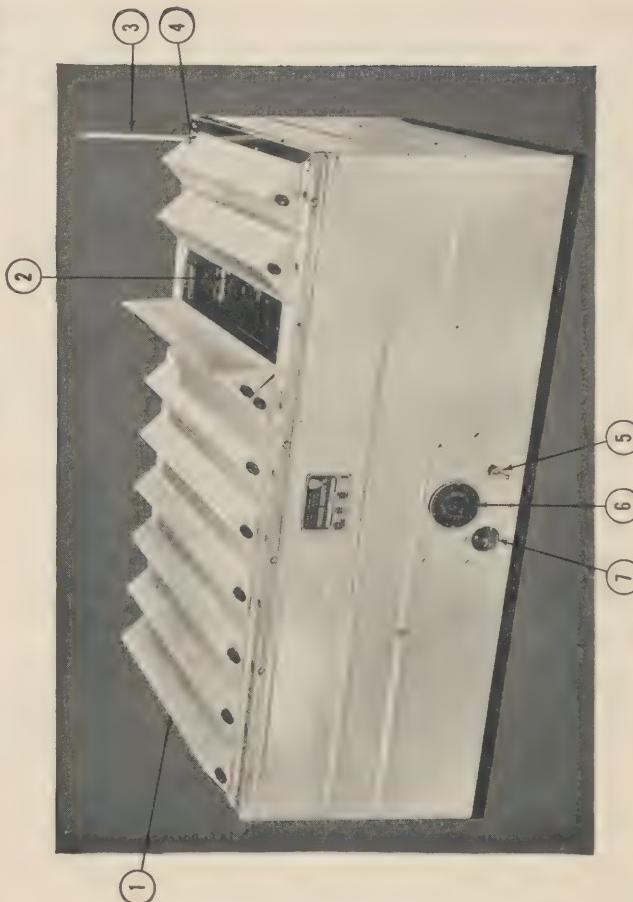

Figure 1. Item No. 4479008 water bath, serological, inactivating, 110-volt, a-c, d-c. Precision Scientific Co.
b. The illustrations throughout the manual bear "key" numbers. When reference is made in the text to a part in an illustration, the "keying" number and figure number only will be given. For example: (3) figure 1, directs attention to the item having "key" number (3) on figure 1: Med. Dept. No. 4R01512, Thermometer, Range 0°-70°C.
(3) Remove the thermometer, (29) figure 9, from its case and insert it into the thermometer well, (4) figure 1, at the right rear corner of the bath. Tighten the thermometer coupling, (32) figure 9, when the thermometer has been lowered to the position where the mercury tip will be completely immersed in water, but not so far that the tip will touch the shelf at the bottom of the tank.
(4) Place the test tube supports, (2) figure 1, into the bath.
(1) Control switch, (5) figure 1. This switch is used to turn the heater "ON" and "OFF."
(2) Thermostat, dial and knob, (6) figure 1. Turning the knob clockwise increases temperature in the bath; turning counterclockwise decreases temperature.